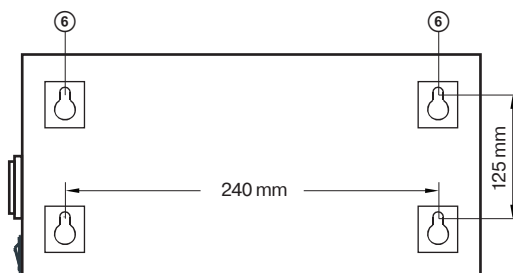

Fig. 2. Rear panel
- Next, make a mounting fasteners (not included) to the wall, considering the wall mounting holes location ③ on the stabilizer rear panel (see Fig. 2).